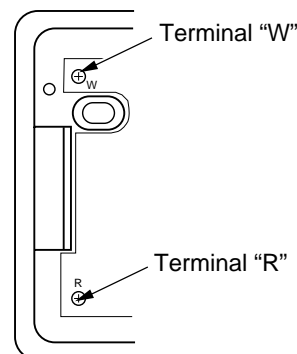

Figure 50 - Thermostat Base Terminal "W" and "R"
7. Connect one bare wire end to each terminal ("W" and "R") of the thermostat base (see Figure 50).